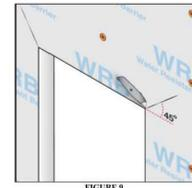

FIGURE 10
At the head of the opening, starting at the top corner of the exterior window (rough) opening, measure from the corner horizontal and then vertical a distance equal to the roll width of the flashing to be applied. At a 45° angle, carefully cut the WRB on a diagonal (see Figure 9). Repeat this step on the opposite corner. Trim 25 mm (1 in) off the bottom of the WRB head flap for proper integration with the head flange of the window. Raise the bottom edge of the flap created in the WRB up and temporarily tape to the exterior face of the WRB above (Figure 10). This is done in order to allow for installation of the exterior window and head flashing later.
7.2.2 For all WRB Wrap Methods (A) at the head of the opening, starting at the top corner of the exterior door (rough opening), measure from the corner horizontal and then vertical a distance equal to the roll width of the flashing to be applied. At a 45° angle, carefully cut the WRB on a diagonal (see Figure 10). Repeat this step on the opposite corner. Trim 25 mm (1 in) off the bottom of the WRB head flap for proper integration with the head flange of the door. Raise the bottom edge of the flap created in the WRB up and temporarily tape to the exterior face of the WRB above. This is done in order to allow for installation of the exterior door and head flashing later.